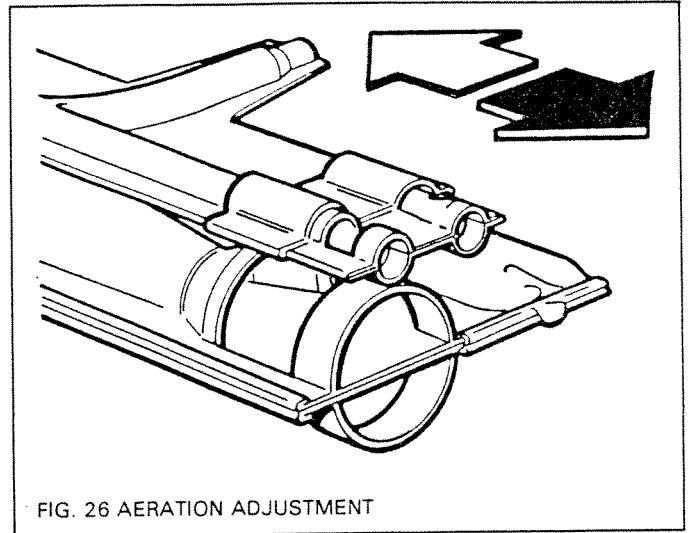

FIG. 26 AERATION ADJUSTMENT
- (d) Slide the aeration sleeve on the decorative flame burner either way to give the correct flame pattern (see fig. 26). There should be no appreciable deposits of carbon on the logs.